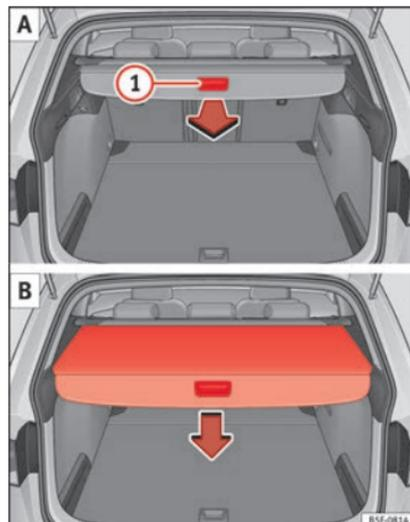

Fig. 162 In the luggage compartment: opening and retracting the rear shelf.
- Pull evenly on the rear shelf using its handle »» **Fig. 162 1 A** in a backwards direction until it audibly clicks into place.
- Press on the handle of the rear shelf in the direction of the arrow to release it »» **Fig. 162 B**.